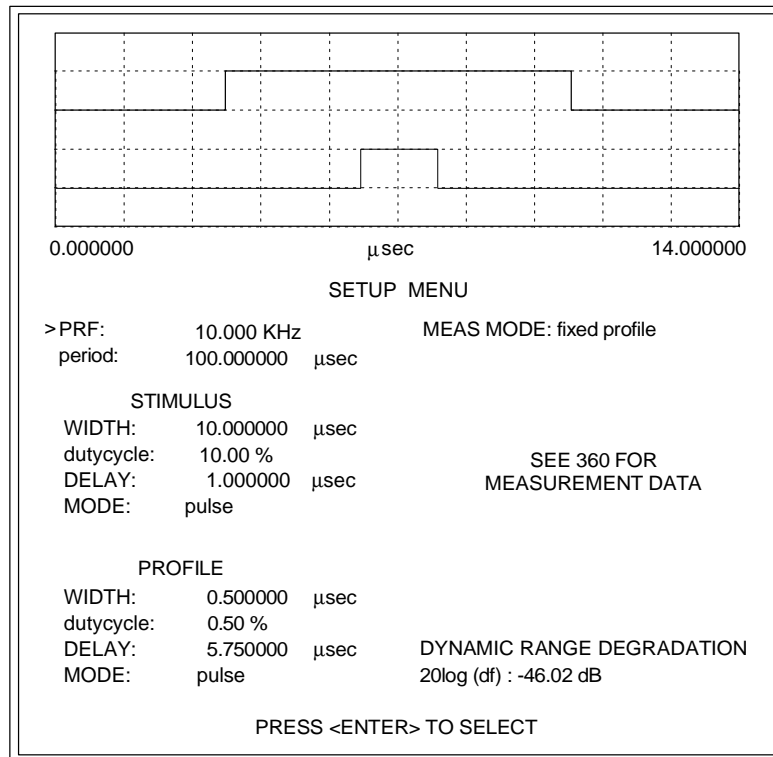

Figure 3-15. Setup Menu Display (Fixed Profile Pulse Measurement)
To perform a fixed profile pulse measurement, you first need to enter pulse parameter data and change settings in the Setup Menu (Figure 3-15) as follows:
During fixed profile pulse measurement, the Setup Menu shown in Figure 3-15 remains displayed on the computer/controller’s monitor. You can exit the Setup Menu in one of two ways; (1) press the ESC key to return to the previous menu, or (2) press the function key F2 to display the Main Menu.